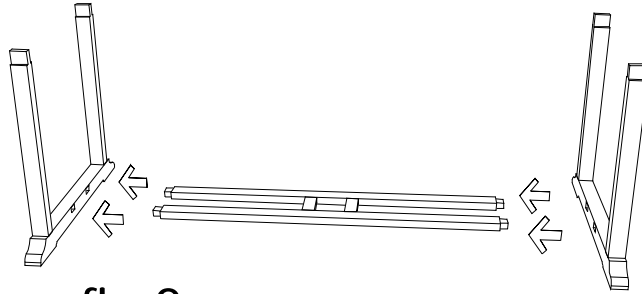

fig 2.
3. Insert the legs support and Insert the other leg. (Fig. 2)